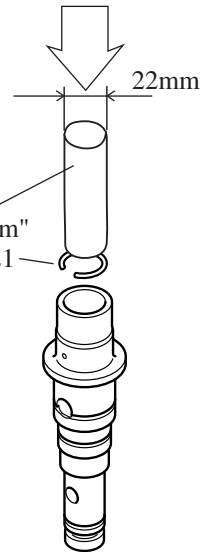

Fig. 25
- (3) Press ring spring 21 into the tool holder with 1R248 "Round bar for arbor 22mm" until it fits in the groove which is grooved inside of tool holder. See Fig. 25. And make sure that the ring spring 21 is fit in the groove.